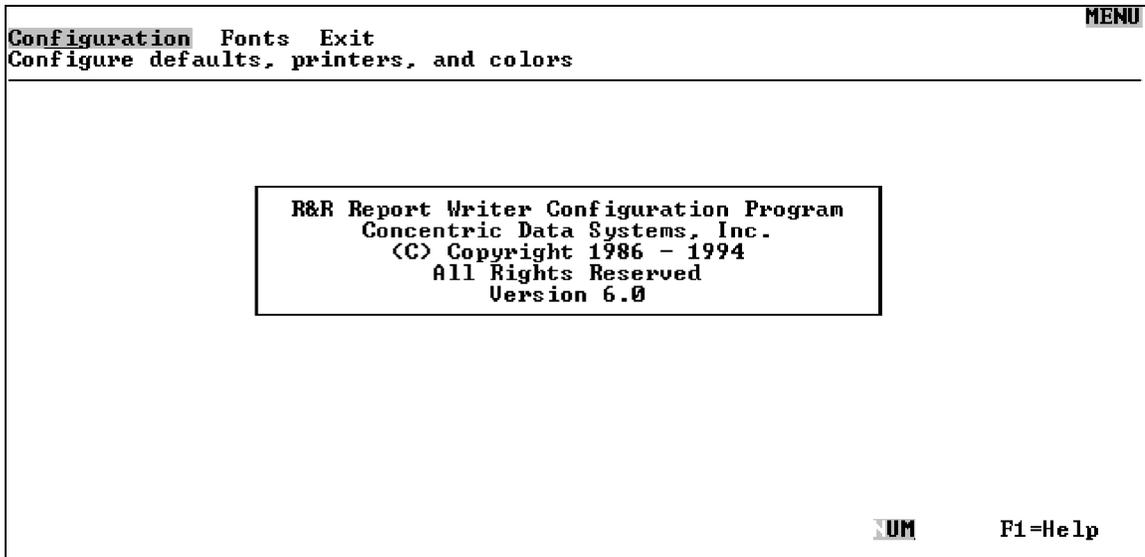

Figure 10-92. The R&R Report Writer Configuration Program.
2. Type RRSETUP and press **<Enter>**. The R&R Report Writer Configuration Program appears on your screen as shown in Figure 10-92.